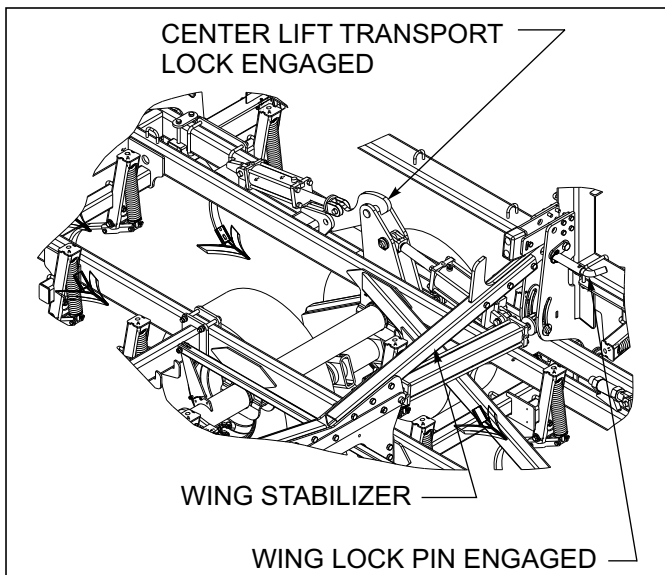

Figure 4-5: Installed Transport Locks
4. When the unit is fully folded, remove clip pin and slide wing lock pins rearward to engage wing lift transport locks (See Figure 4-5.)